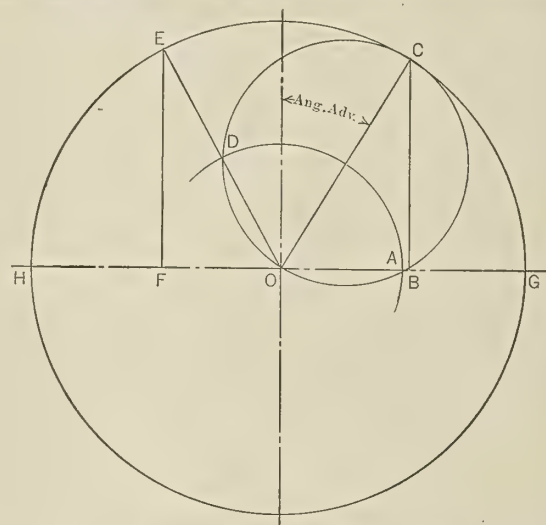

Fig. 1.—Solution by Zeuner's Diagram
Q. (993).—An engine has 3 feet 6 inches stroke, $\frac{1}{8}$ -inch lead and $2\frac{1}{2}$ -inch lap; the valve travel is 10 inches. What is the point of cut-off? I would appreciate having the answer in the form of a formula and also by a graphical method.
A. (993).—Fig. 1 shows the solution of the problem by Zeuner's diagram. With O as center and OG radius, equal to one-half the valve travel, draw circle ECG. Lay off OA